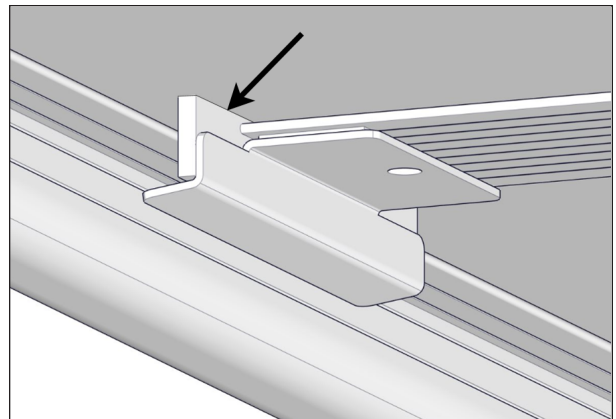

FIGURE 93: FINAL POSITION OF THE WIPER
At the final position of the wiper, the flap must touch the edge of the I-beam, see Figure 93.
4. Stick the wiper bracket on the middle of the I-beam by holding it in place and maintaining pressure for at least 60 seconds. This ensures a proper bond to the I-beam. Make sure you install the wiper flap at the edge of the I-beam directly into the gap between the I-beam and the C-channel, see Figure 93.